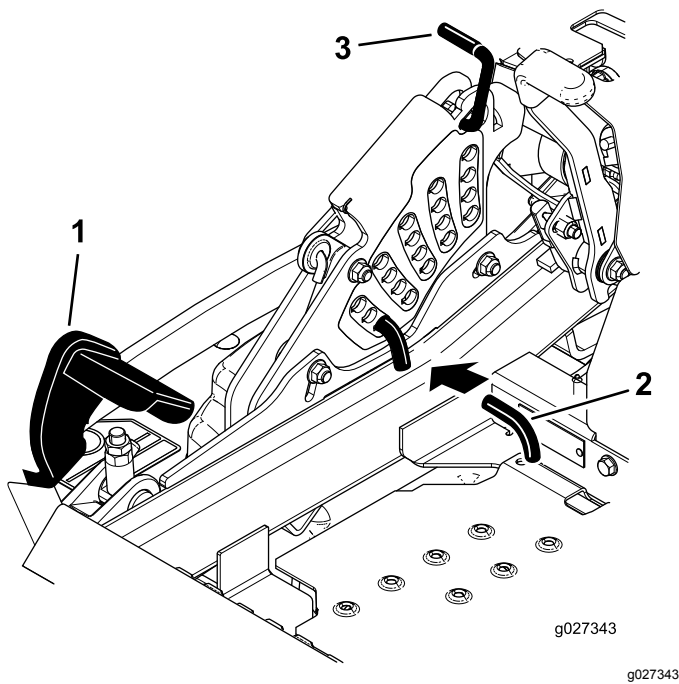

Figure 95
5. Push the deck-lift pedal all the way forward and the deck latches at the 14 cm (5-1/2 inch) transport position (Figure 95).